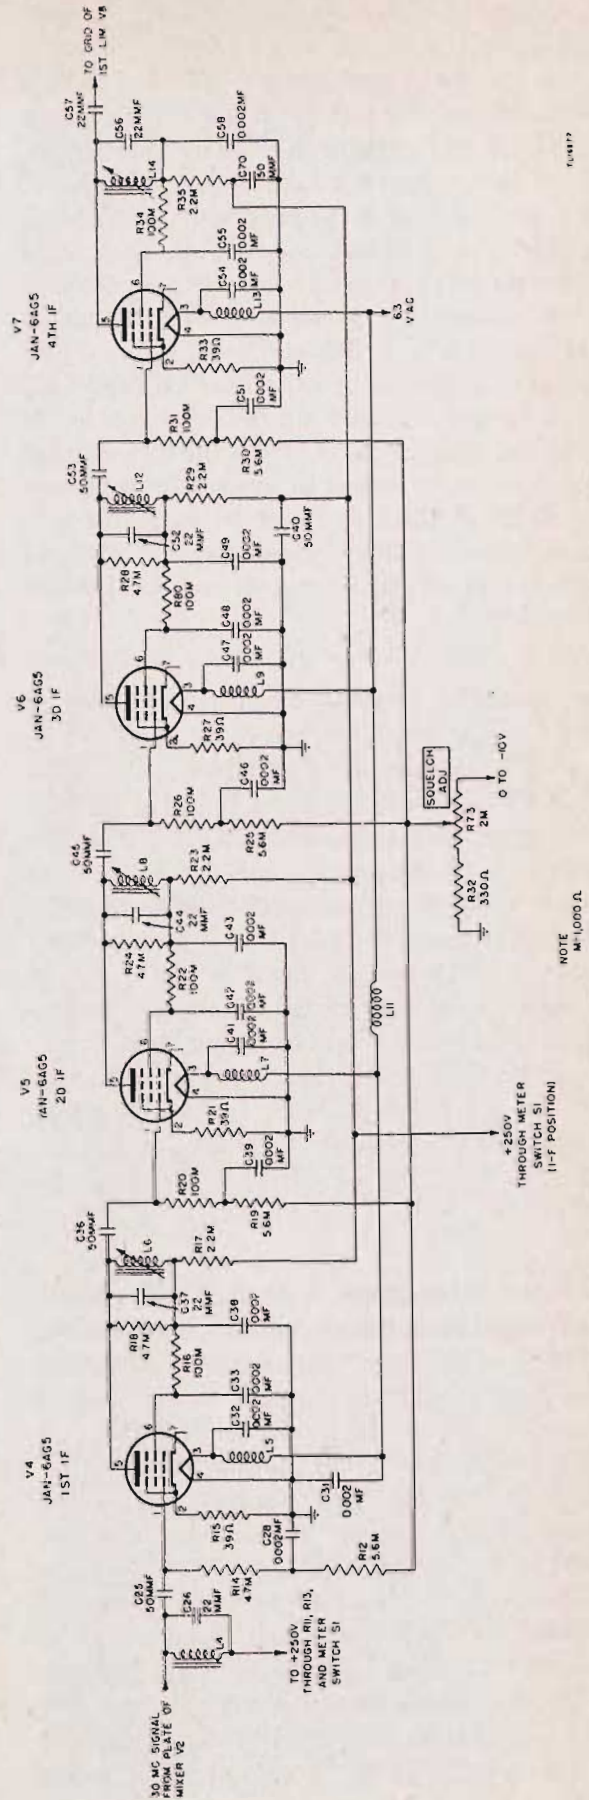

Figure 98. Radio Receiver R-48/TEC-8 (XC-3), functional diagram of i-f amplifier stages.
a. **First I-f Amplifier.** Coil L4 tuned to 30 mc by capacitor C26 is the first i-f transformer and is coupled to the plate of mixer tube V2 (fig. 98).